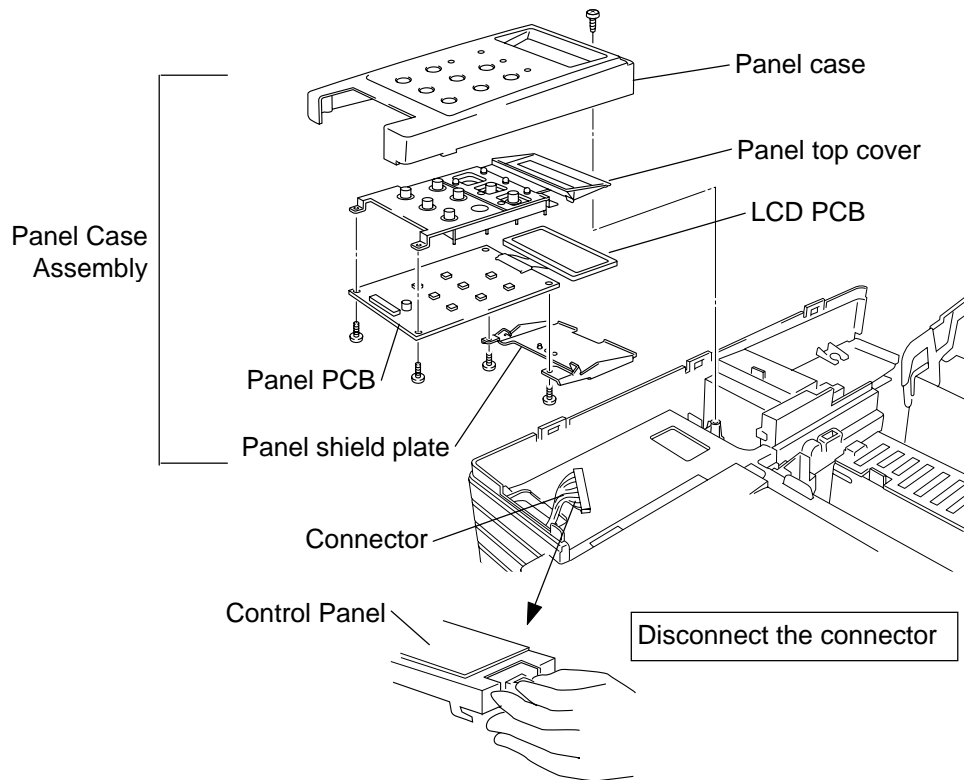

Fig.7-26
- 1) Remove the set screw BT4X10 (1 pc.) from the panel case assembly and disconnect the connector. (Refer to Figure 7-26 below.)